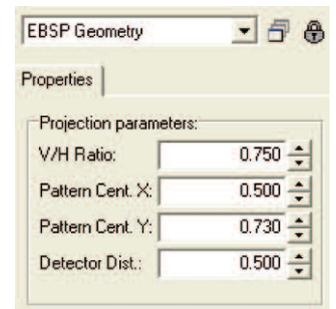
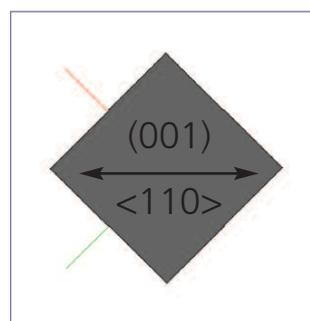

Figure 3. The Projection Parameters (PP).
Figure 4b.
The Pattern Centre (PC) is the point on the phosphor which is closest to the Excitation Volume, which changes with WD and DD. The position of the PC is shown on the EBSD (Figure 4b) with a blue cross, which is defined by PC_x and PC_y (Figure 3) in PP. The PC position is close to the (114) zone axis for an EBSD detector orientation of 0,90,0.
4. Select the Projection Parameters (PP). If you do not have an appropriate calibration file either load the approximate PP values from an existing calibration file (*.cal), which was obtained at similar conditions or try and guess appropriate PP values. Or select Calibrate | Projection Parameters and enter the default values given in Figure 3. If you are unsure about the DD value, try entering 0.5 for the Detector Distance. This value may then later be refined.